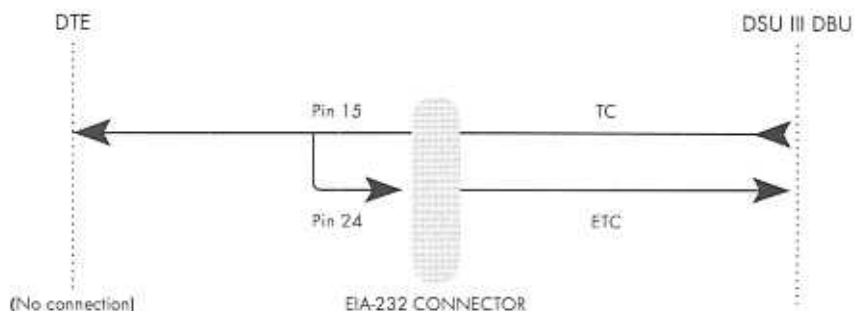

Figure E-1
The EIA-232 connector, shown in Figure E-1, may be used for 56 and 64 kbps applications. Using the external clock option and this cable should eliminate data errors caused by excessive delays in the DTE transmit clock receiver and transmit data driver. When creating this cable at the DTE interface EIA-232 connector, tie the transmit clock lead (TC) to the external transmit clock lead (ETC) as shown.